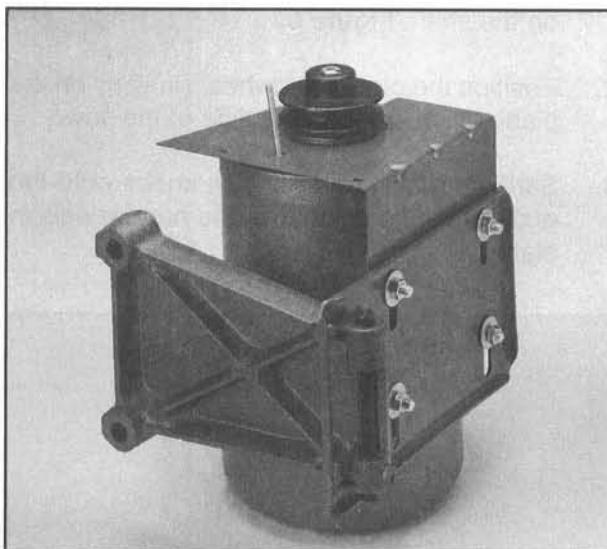

Figure 12.
4. Locate the motor mount bracket. Loosen the setscrew that holds the motor pivot rod in place and remove the rod. Line up the hole in the motor bracket with the hole in the motor plate and insert the motor pivot rod making sure the groove in the rod lines up with the setscrew in the mount bracket. **Figure 12.** Tighten the setscrew.